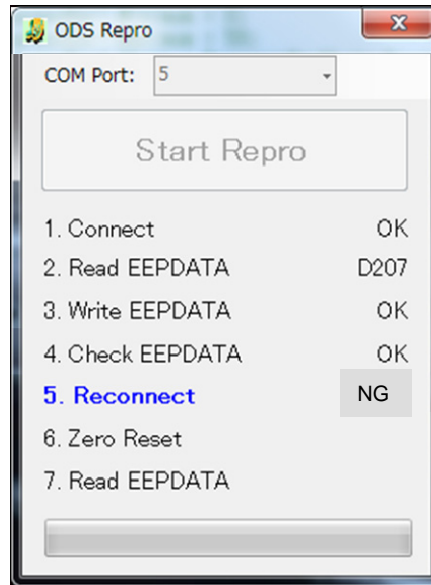

Figure 38
- If the OCS reprogramming stops (displays NG) at item 5, 6 or 7, refer to Figures 38 through 40 on pages 20 and 21.